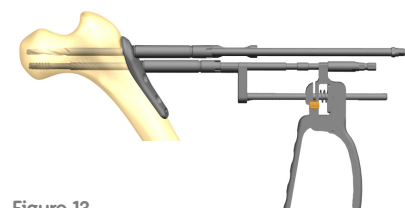

Figure 13
17. Remove the 2.8mm Guide Pin Insert from the Proximal Locking Screw Drill Guide and drill over the 2.8mm Guide Pin with the Proximal Drill. (Figure 13).